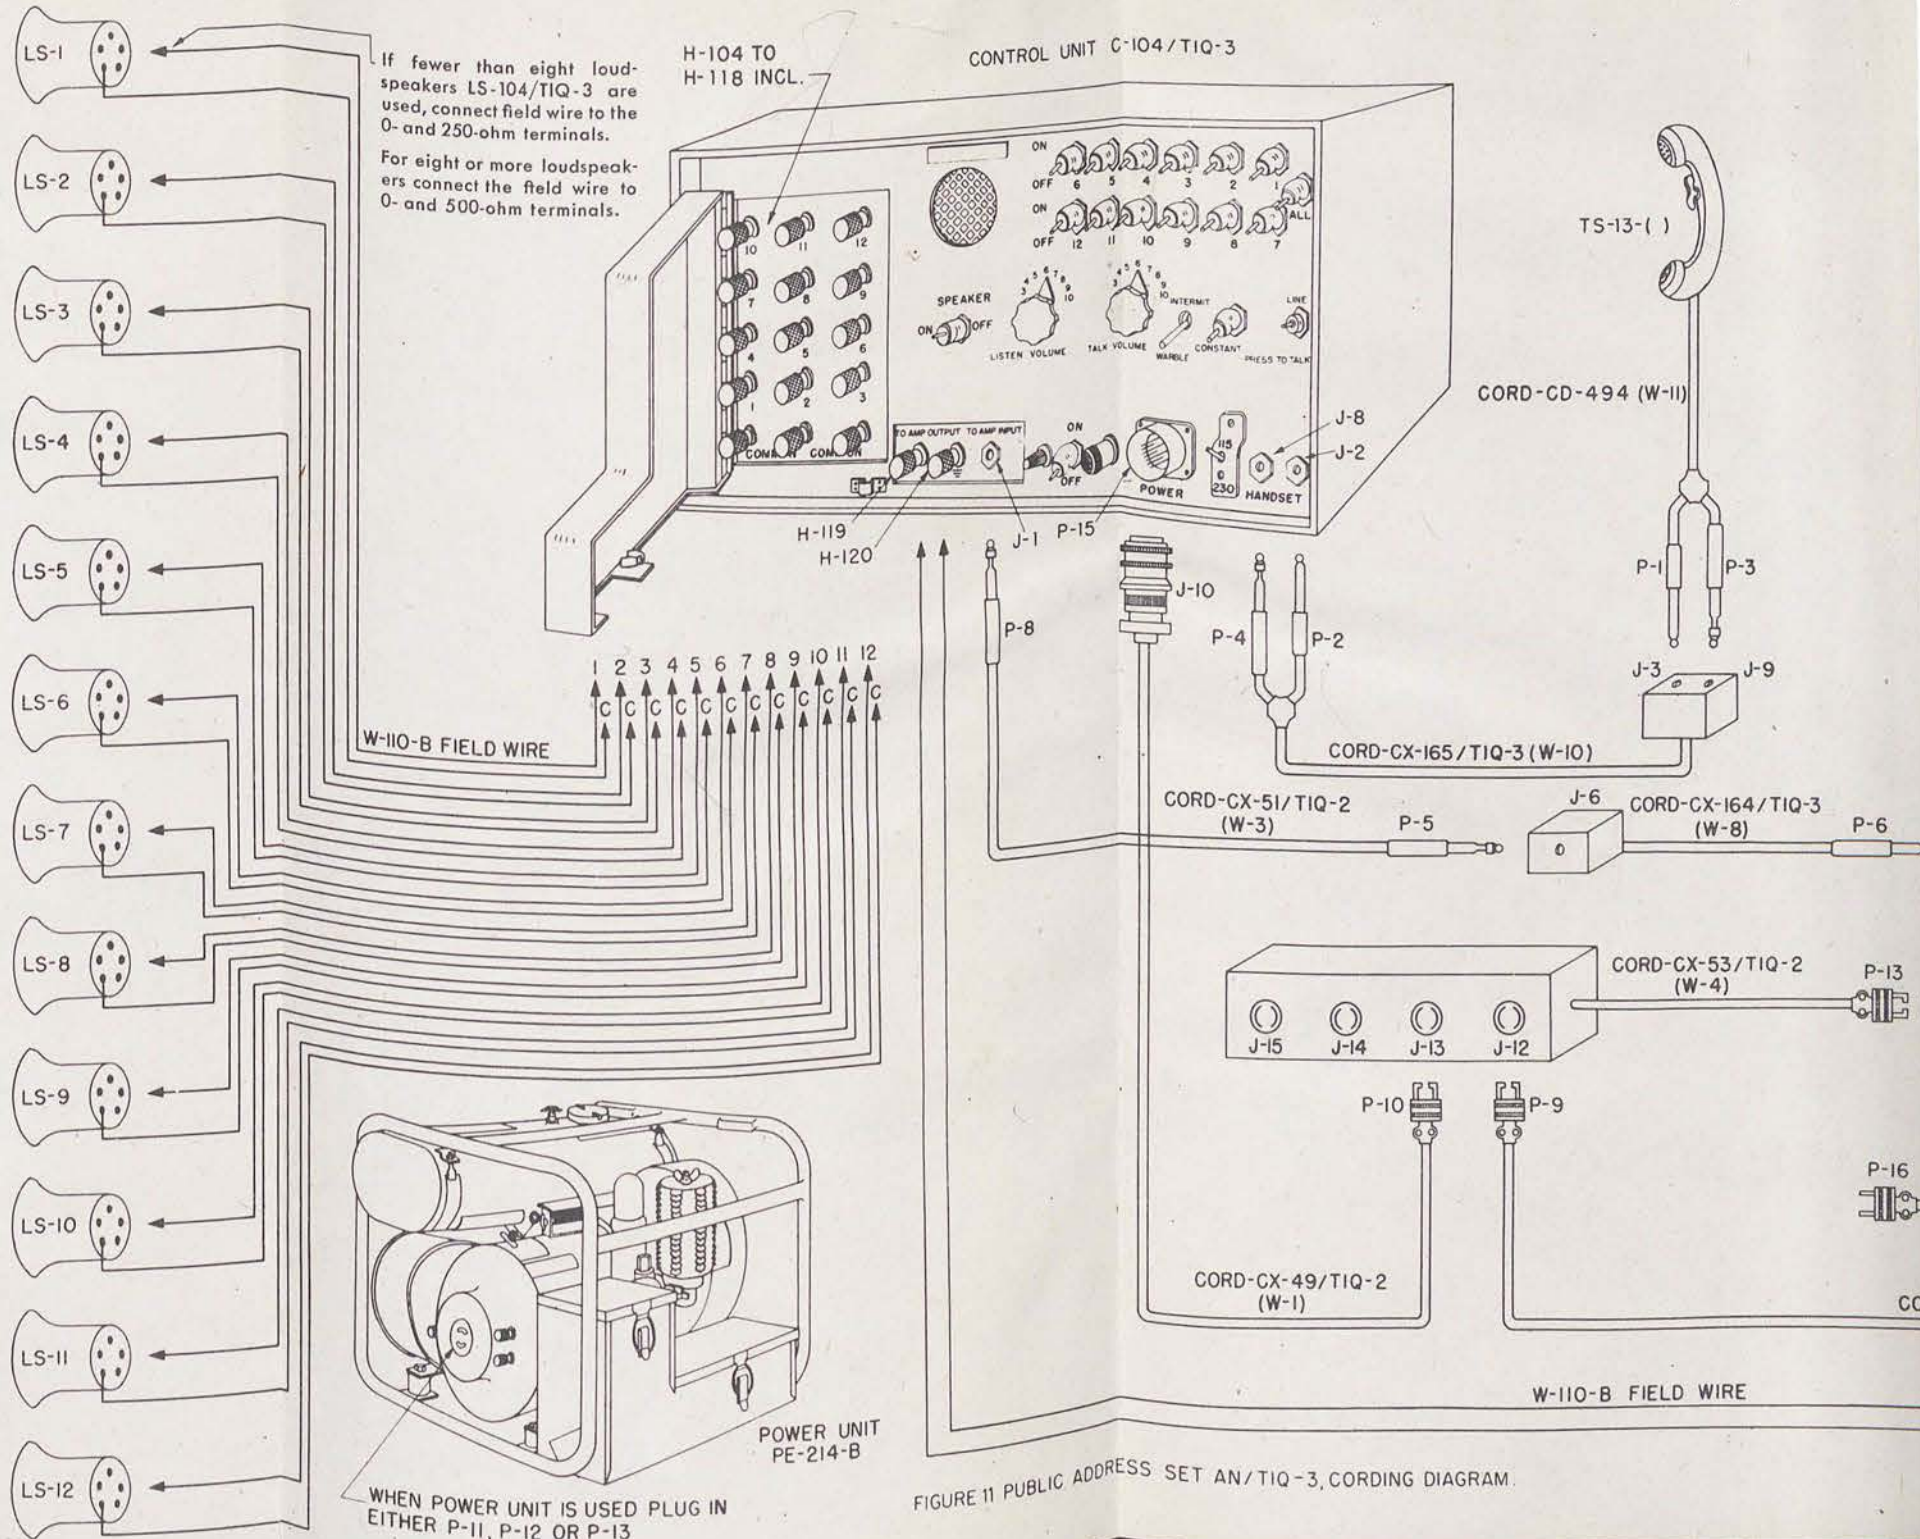

FIGURE 11 PUBLIC ADDRESS SET AN/TIQ-3, CORDING DIAGRAM.
5. INITIAL PROCEDURE (fig. 11).
6. INTERCONNECTING THE COMPONENTS (fig. 11).